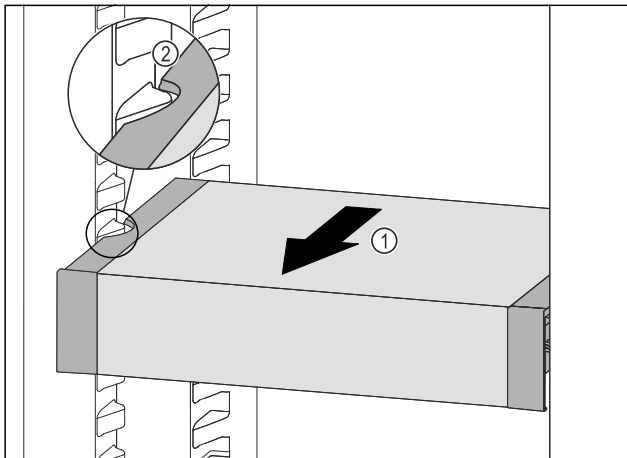

Fig. 103
- Pull VarioSafe forward Fig. 103 (1) until the recesses in the side of the VarioSafe are at the level of the support rib in the refrigerator compartment. Fig. 103 (2)